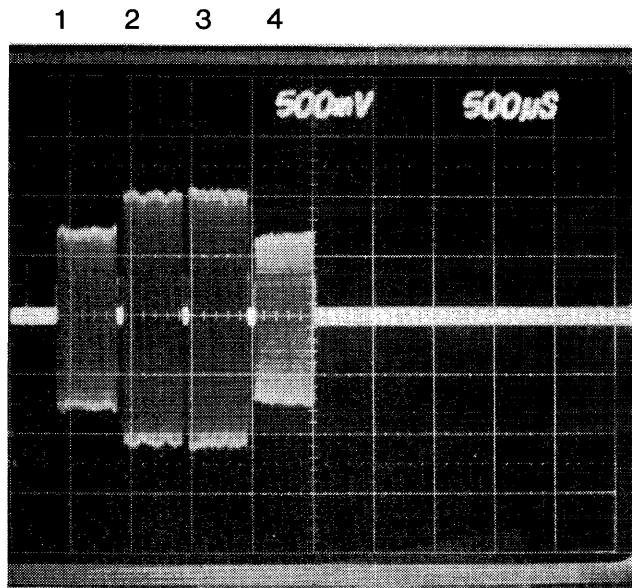

Figure 2-9
D. Observe the following pattern. Figure 2-9 depicts an optimum head alignment of zero minutes of azimuth error. This means that the Head Carriage Assembly is perpendicular to the track being read, Track 76. Bursts 1 and 4 are of equal amplitude; Bursts 2 and 3 are of equal amplitude.